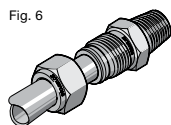

Fig. 6
2. Insert the tube with preswaged ferrules into the fitting body until the front ferrule seats against the fitting body. *Fig. 6.*